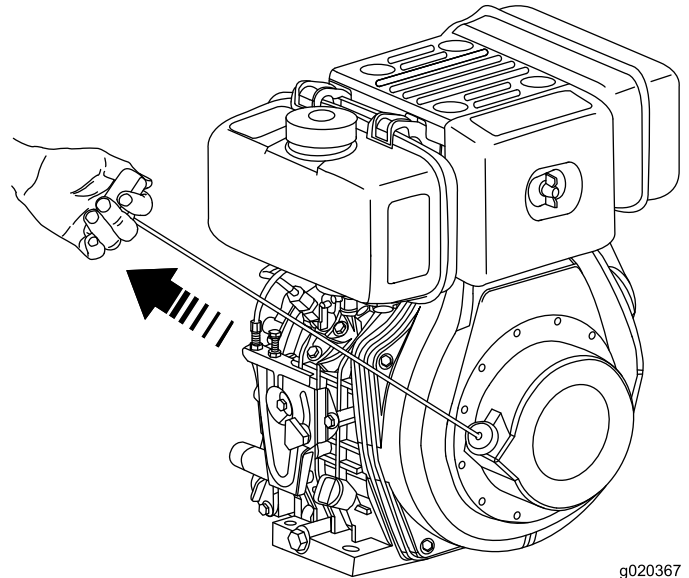

Figure 28
6. Grasp the recoil-start handle, pull it out slowly until you feel resistance, then pull it all the way out with a strong and even motion (Figure 28).